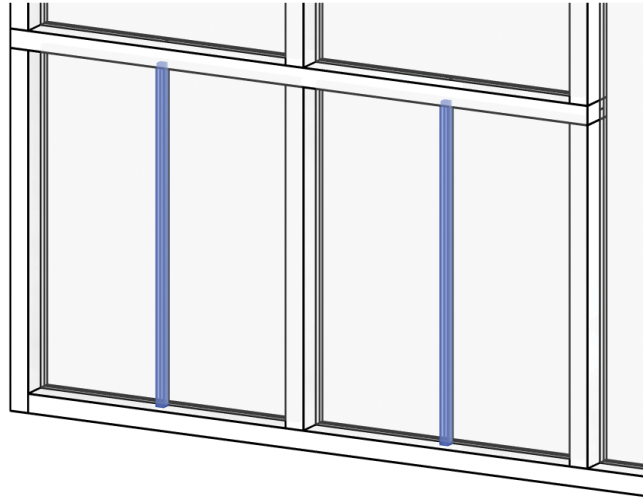

FIGURE 2.29 New grids and mullions
7. Select the four new vertical mullions (use the Ctrl key to add them to the same selection set) and use the Unpin tool. While they're still selected, change the curtain wall mullion to the 1" Square type from the Type Selector (Figure 2.29).